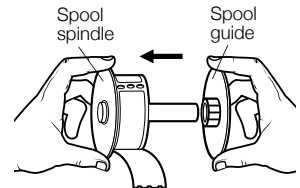

Figure 5
- 4 Hold the spool spindle in your left hand and place the label roll on the spindle so that the labels feed from underneath and the left edge of the label roll is firmly against the side of the spool. See Figure 5.